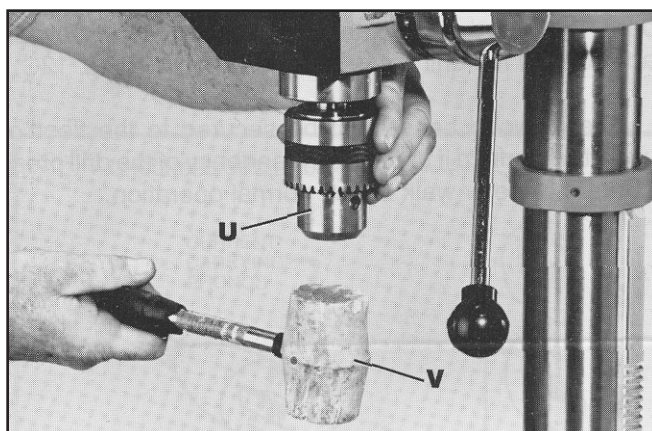

Fig. 12
13. Hold chuck (U) Fig. 12, and carefully drive chuck onto the spindle with a block of wood and a hammer, or a mallet (V), as shown. This will seat the chuck properly on the spindle. **IMPORTANT:** To avoid damage to the chuck **NEVER** drive the chuck onto the spindle with a metal hammer.